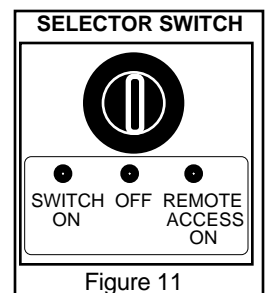

Figure 11
2. Place the **Control Selector Switch** ("S" models-Figure 11) or the **Remote Receiver Switch** ("R" models-Figure 13) into the **OFF** position. Place any Accessory Controls (Remote Control, Wall Switch or Wall Timer) to "OFF". Place Wall Thermostat to lowest temperature setting or Off.
**Switch Control (Manual ON-OFF):** After successful pilot lighting, allow 60-90 seconds for the Thermogenerator to heat up. To turn burner(s) on, place **Control Selector Switch** in the "**ON**" position (see Figure 11). To turn burner off (pilot remains lit) place **Control Selector Switch** in the "**OFF**" position.